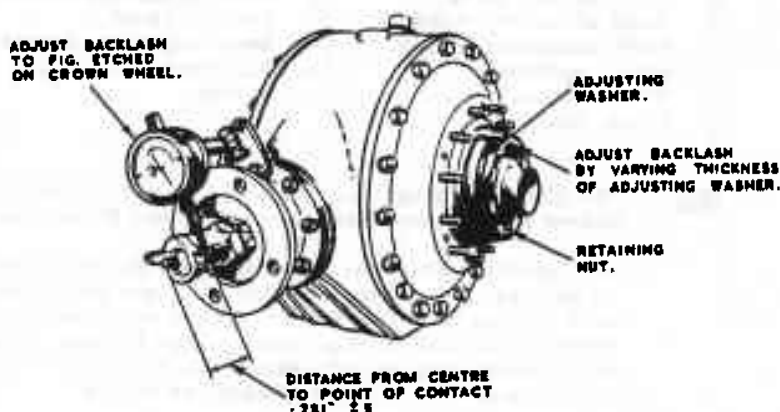

FIG. J18. CHECKING PINION AND CROWN WHEEL BACKLASH.
- b) Fit adaptor as shown in Fig. J18, take average figure of twelve readings. Adjust average reading to etched figure by varying adjusting washer above. Ratio of washer thickness to backlash is 1:1.